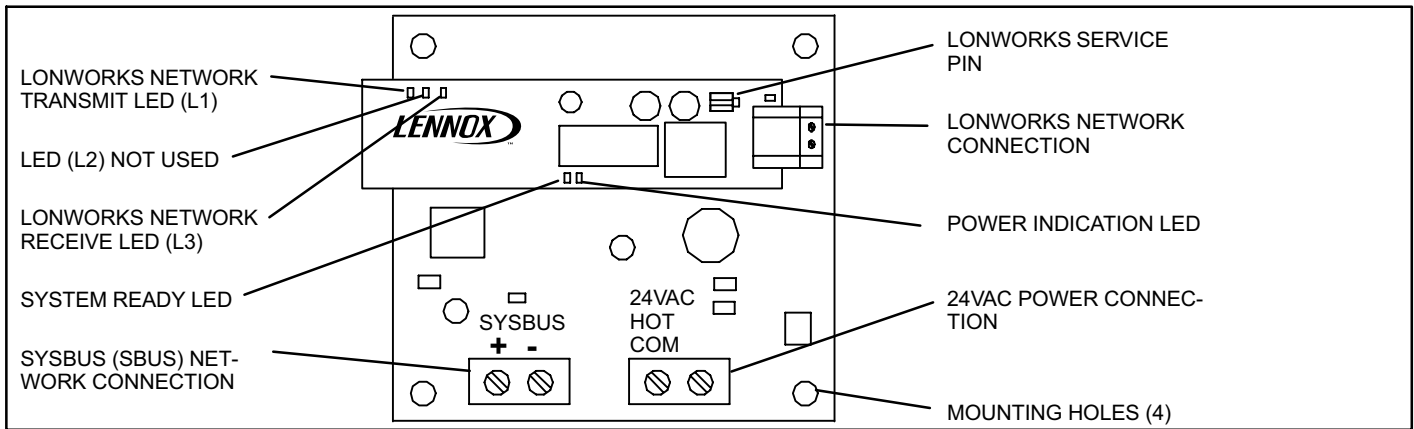

Figure 2. LonTalk® Module
2. Set the MODE DIP "UNIT TEST" and "RECALL" switches to "ON" (see figure 2).